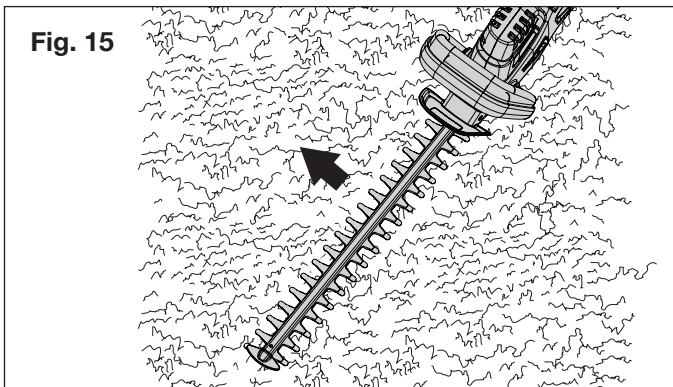

Fig. 15
3. To perform a vertical cut, start trimming at the bottom and sweep up for even cutting. Swing the blades in an arc towards the outsides of the hedge so that the cuttings are swept on the ground (Fig. 15).